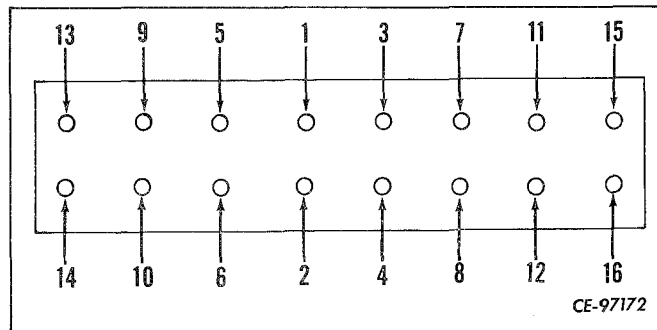

Figure 13-7
- d. Using a rivet press, install the rivets in Fig. 13-7 following the sequence shown.